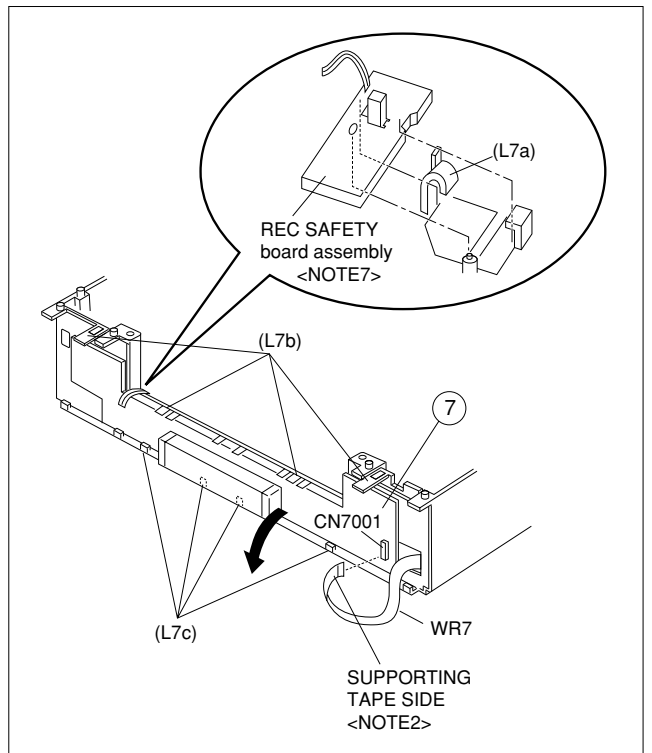

Fig. D7
- (8) Remove the SW/Display board assembly and REC safety board assembly. (Refer to page 1-3 of 1.3 DISASSEMBLY/ASSEMBLY METHOD. Take care not to pull the flat wire (Fig. D7) from CN7001.)